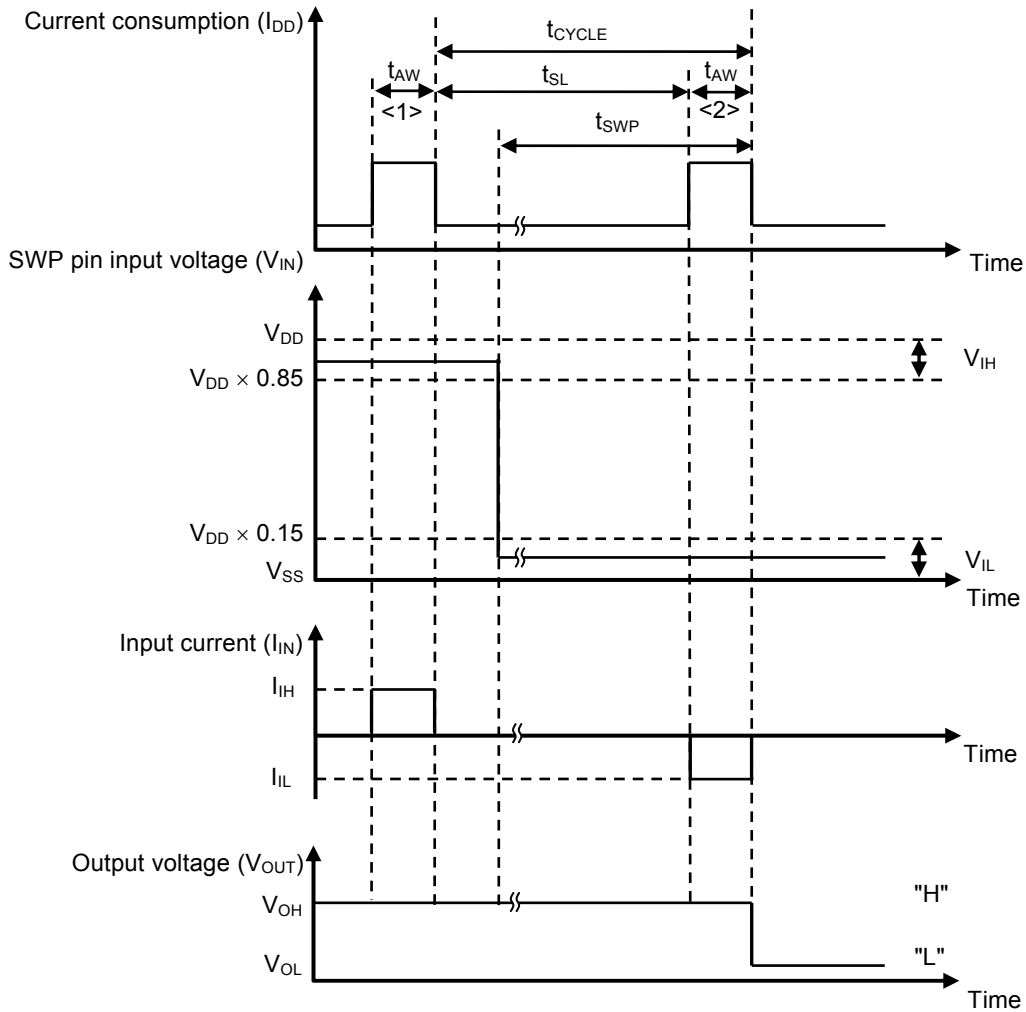
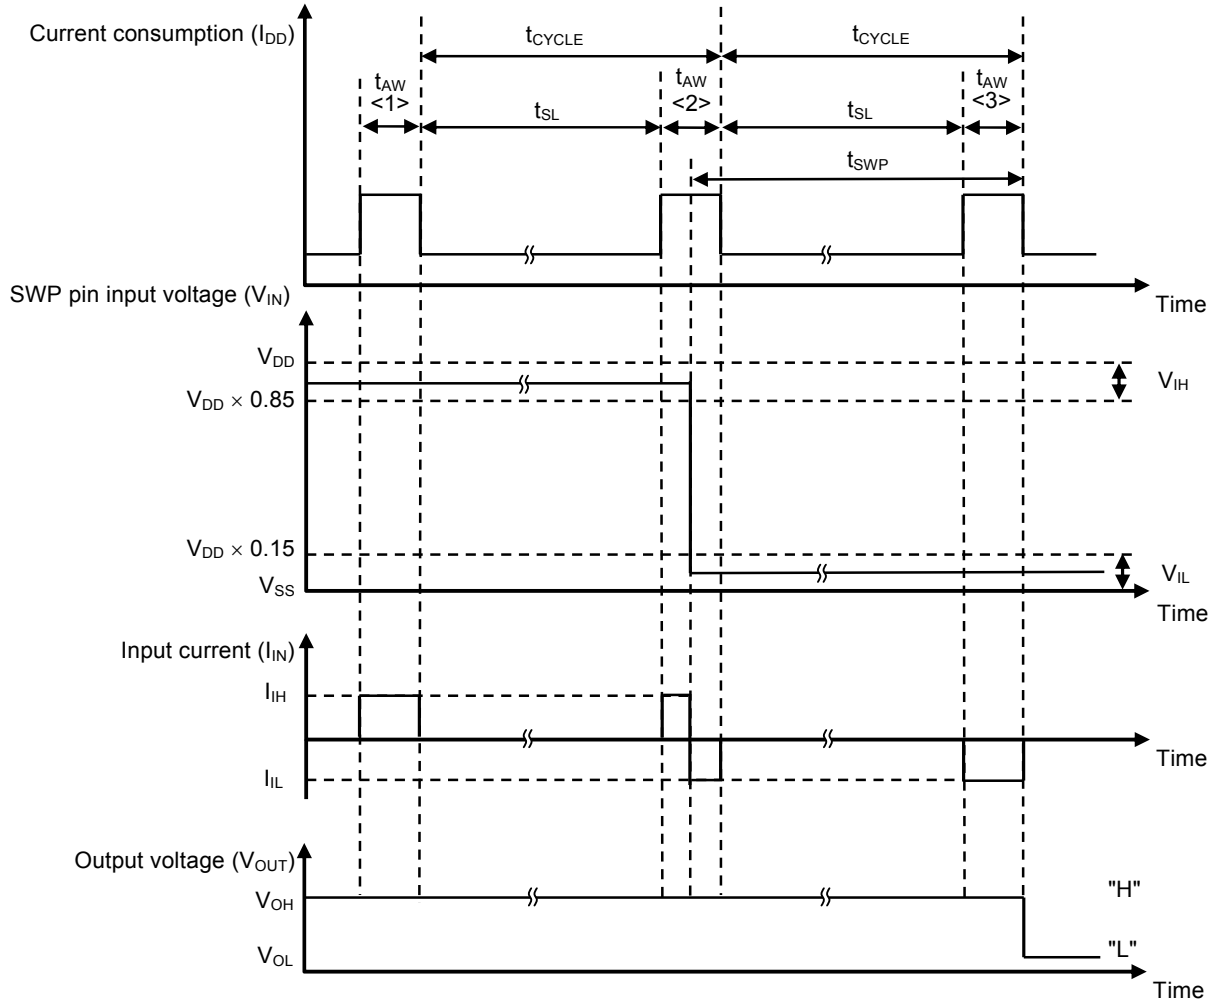

Figure 21 When V_{IN} does not Change during $t_{AW<2>}$
Figure 22 When V_{IN} Changes during $t_{AW<2>}$
During awake mode time (t_{AW}), this IC detects the SWP pin input voltage (V_{IN}), and the detection pole switches when t_{AW} ends. **Figure 21** and **Figure 22** show the timing chart for switching from N pole detection to S pole detection when magnetic flux density (B) > B_{OPS} in active "L" products.
When V_{IN} changes during $t_{AW<2>}$, this IC may output V_{OUT} according to the detection pole when $t_{AW<1>}$ ends. Refer to **Figure 21** for the operation of $t_{AW<3>}$.